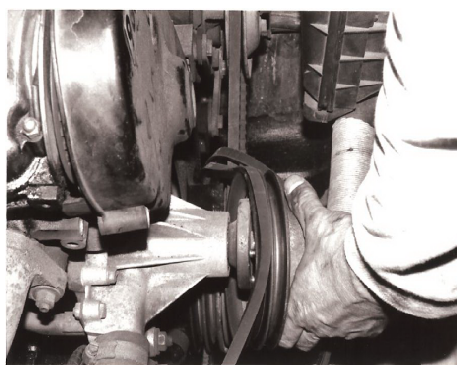
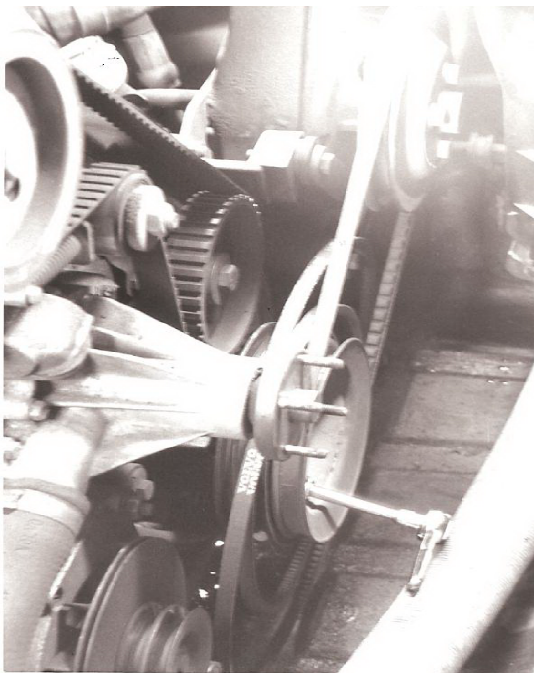

Figure 7. Removing the waterpump pulley hub and fan belts.
Figure 12. The outer and inner crankshaft pulleys are easily unbolted and removed. Inner fan belts hang loosely.
4. Slip waterpump hub and fan belts off (**Figure 7**). Hang the two belts out of the way per **Figure 12** or **Figure 23**.
Remove the 6, 10-mm bolts (or 2 nuts, 4 bolts) on the crankshaft pulleys (Figure 12) and slide the